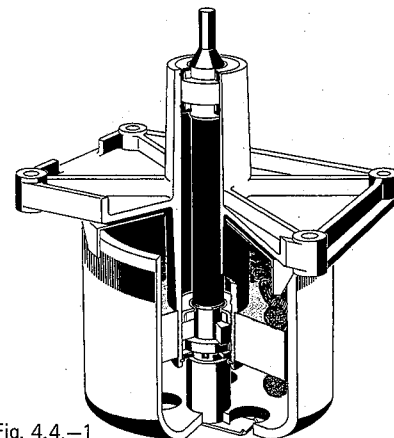

Fig. 4.4.-1
4.4. Capstan Motor (fig. 4.4.-1)
- Use special angled pliers to pull shaft lock A towards one side (fig. 4.4.-1). Proceed with caution, because the shaft lock is under high spring tension and will tend to fly off with force. Remove rotor by pulling it off the shaft.